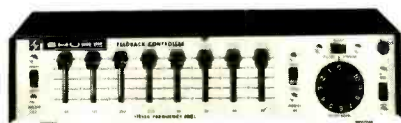

FIG. 3—SHURE M610 equalizer is designed for controlling feedback.
**FIGS. 3 AND 4—THE VOLTAGE VERSUS FREQUENCY characteristics of the 4136 (left) and the LM318 (above) operational amplifiers. The 4136 integrated circuit contains four operational amplifiers. The LM318 is a premium device that has additional bandwidth. The basing diagrams for both integrated circuits are shown for the dual-in-line and metal-can packages.**
Once the microphones and loudspeakers have been positioned for minimum feedback, electronic equalization can add further improvement by reducing the gain of the system at frequencies where feedback occurs. Figure 3 shows an electronic filter designed to reduce feedback any of eight one-octave filter bands. Narrow-band filters containing as many as 27 one-third octave filter bands are also available to provide finer control. An ordinary digital frequency meter is very useful for identifying feedback frequencies. The technique used for feedback equalization is to slowly increase the system gain until a feedback frequency is sustained. The appropriate filter is then adjusted while the system gain